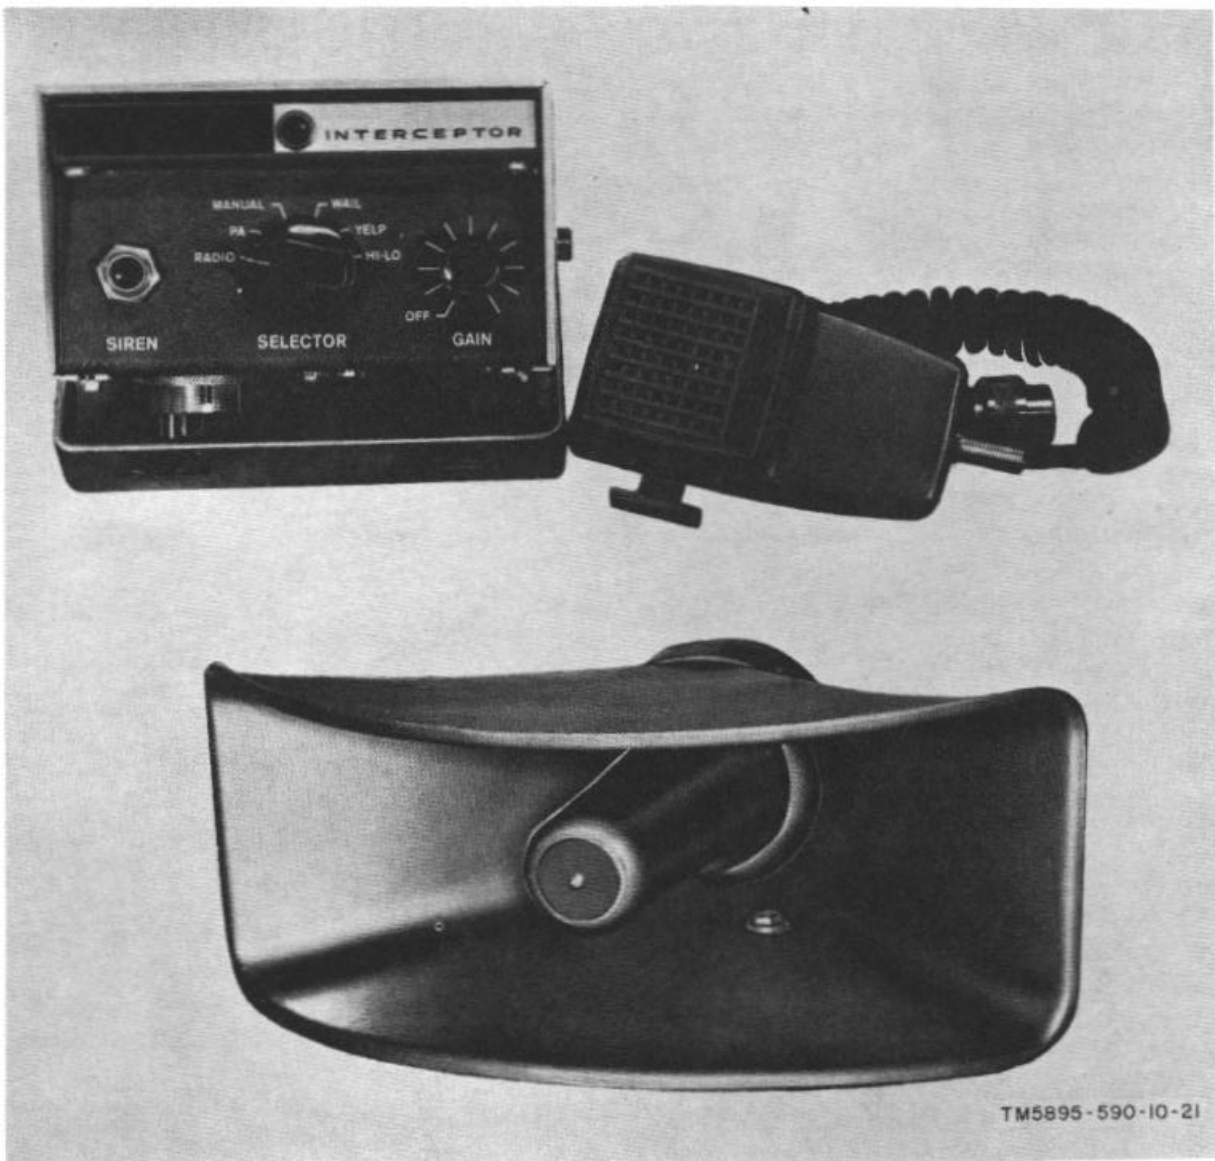

Figure 1-17. Public Address Set AN/GIH-4.
e. *Public Address Set AN/GIH-4* (fig. 1-17). The alarm/public address (pa) system is comprised of a chassis-mounted amplifier in a cabinet enclosure. All operating controls for this equipment are grouped on the chassis front panel; a microphone jack is provided on the bottom of the chassis. A stand is attached to the cabinet enclosure for mounting purposes. Two self-enclosed, weatherproof speakers are also provided which connect to a terminal board at the rear of the amplifier. The speaker mounts on a bracket, which is not provided as a part of the equipment. A handheld microphone with a push-to-talk switch is furnished for use with the system.